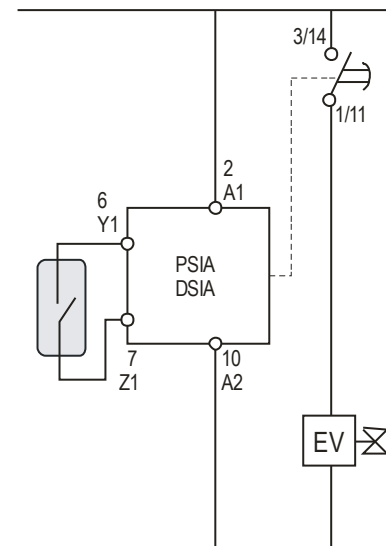

Figure 5
- The gap for connection/disconnection of a reed switch is estimated between 5 and 10 mm. It means that the simple movement of the liquid. This means that the simple movement of the liquid during the filling or emptying maneuver can lead to repeated activation and deactivation of the control device with the consequent wear of both the reed contact as these devices. Prevention may be to use a timer (PSIA / DSIA) to delay the action on the control device until the sensor provides a signal maintained by the liquid level (Figure 5).
- One sole magnetic switch provided with a single contact that acts on a timer (PSIA / DSIA) and performs the maneuver by time difference (figure 5).